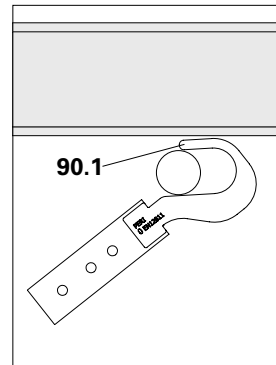

Fig. A11.01a
1. Set Adapter Hanging Scaffold UEH at an angle of approx. 45° and push claws (90.1) between the scaffolding tube and flange support. The round inner contour of the adapter hanging scaffold must lie against the scaffolding tube. (Fig. A11.01a)